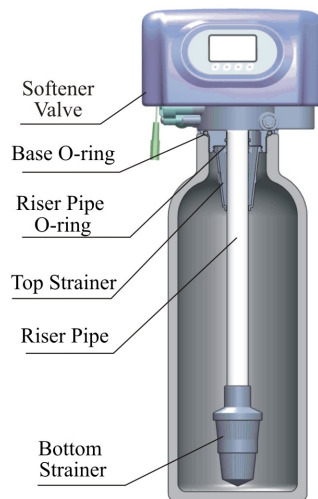

Figure1-1
- ①The filter or softener should be located close to drain.
- ②Ensure the unit is installed in enough space for operating and maintenance.
- ③Brine tank need to be close to softener.
- ④The unit should be kept away from the heater, and not be exposed outdoor. Sunshine or rain will cause the system damage.
- ⑤Avoid to install the system in circumstance of Acid/Alkaline, magnetic or strong vibration, because above factors will cause the system disorder.
- ⑥Do not install the filter or softener, drain pipeline in circumstance which temperature may drop below 5℃, or above 50℃.
- ⑦One place is recommended to install the system which cause the minimum loss in case of water leaking.
①Install control valve
a. As the Figure 1-1 shows, select the riser pipe with 26.7mm OD, glue the riser pipe to the bottom strainer and put it into the resin tank, cut off the exceeding tube out of tank top opening. Plug the riser tube in case of mineral entering.